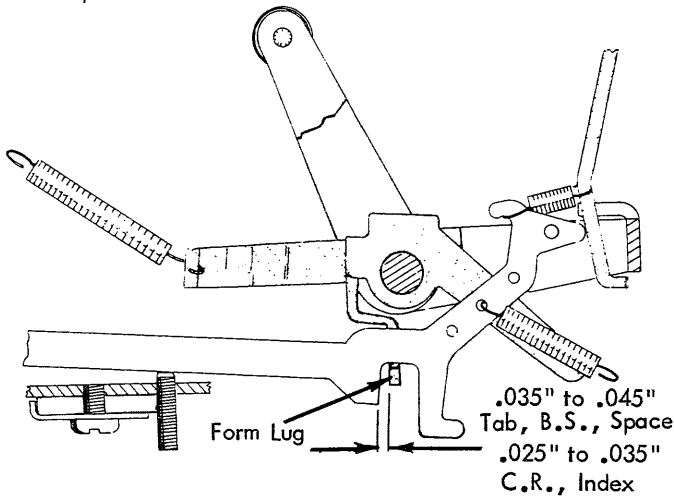

FIGURE 119. Clutch Release Arms Adjustment
7. Clutch Release Arm (Fig. 119) - The lug at the bottom of each clutch release arm should be formed so that it clears the interposer lug by $.025''$ to $.035''$ on Carrier Return, Index and $.035''$ to $.045''$ on Tab, Backspace, and Spacebar.